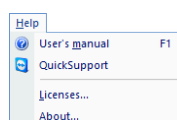

Figure 43 – Help menu
- **Help** – displaying the application version, installing licenses and browsing the electronic version of the user's manual (see Figure 43).